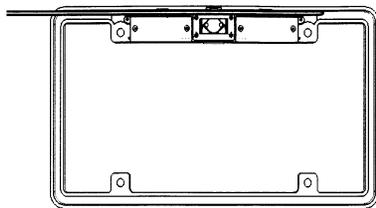

Fig. 6
- B. Route the light wire along the slot between the light case and license plate. (Fig. 6)